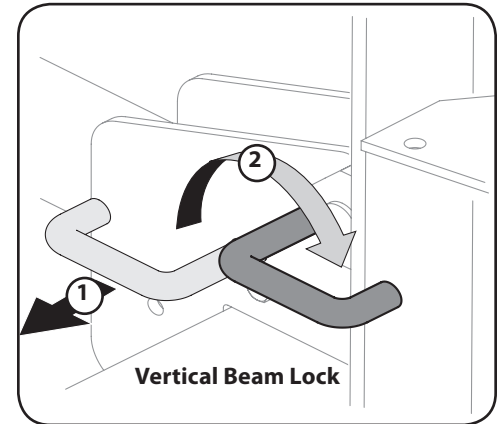

Figure 4-3
- b. To lock the beam in the vertical position, pull vertical beam lock out and rotate it to secure the beam. See Figure 4-3.